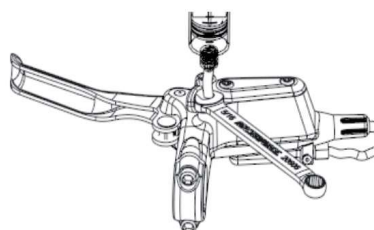

Figure 5-3 8 mm open end spanner to loosen/tighten the main body of the caliper into the nozzle screw
- ④ Use the 8mm open-end wrench to tighten the oil inlet nozzle of the master cylinder (turn clockwise about 1.5 turns, as shown in Figure 5-3).